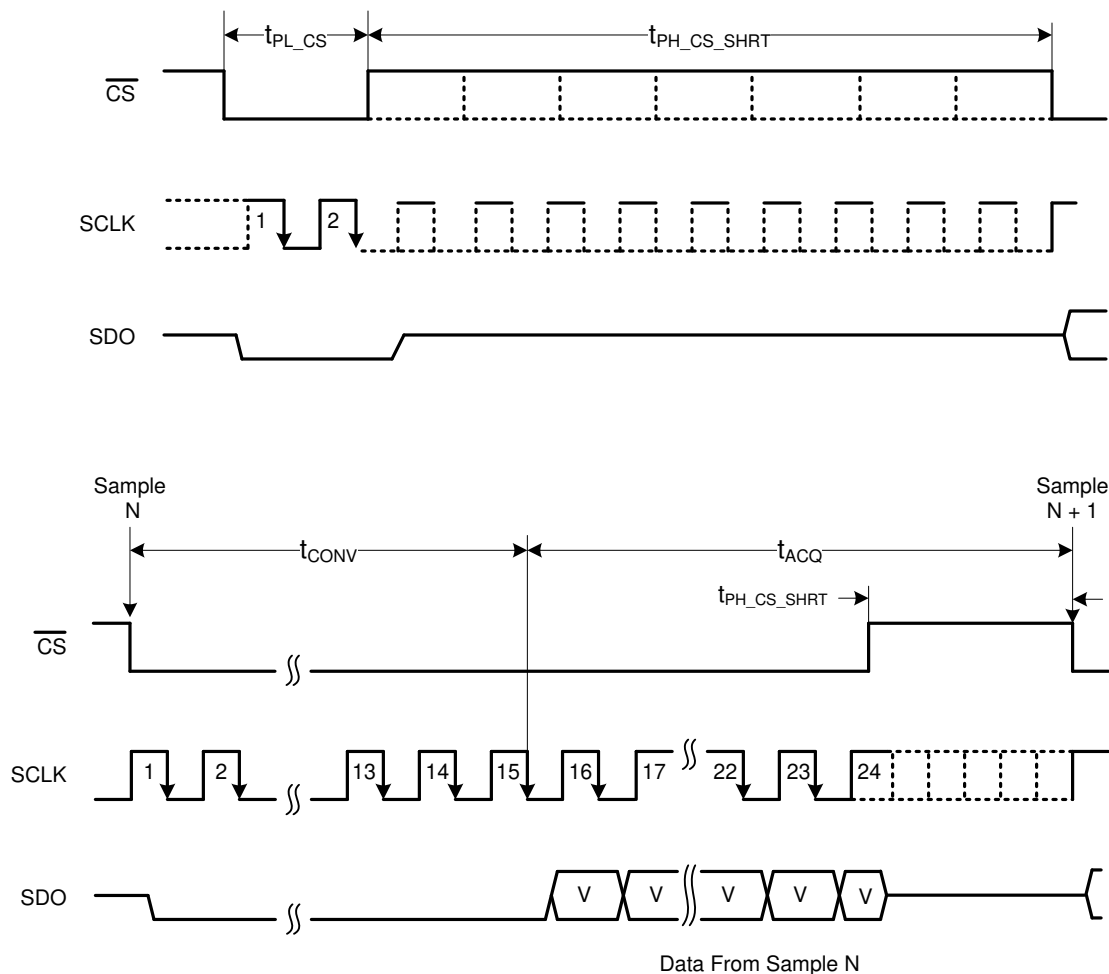

Figure 7-12. Frame Abort, Reconversion, or Short-Cycling Feature
As shown in Figure 7-12, the minimum number of SCLK falling edges (N) that must be provided between the beginning and end of the frame depends on the serial interface mode. The SCLK falling edges (N) program the device and retrieve the conversion result. If $\overline{\text{CS}}$ is brought high before the expected number of SCLK falling edges are provided, the current frame is aborted and the device starts sampling the new analog input signal.